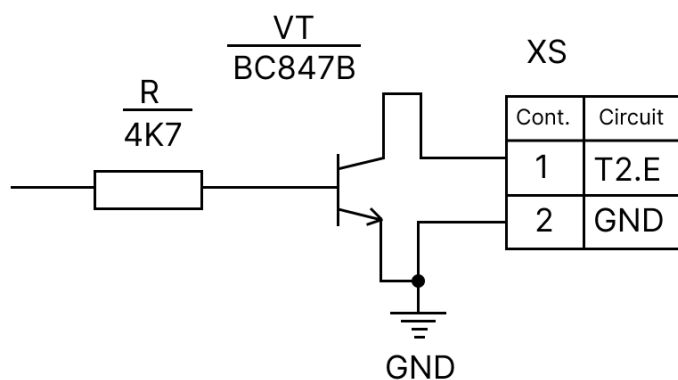

Figure 1.3 – Output stage diagram
1.4.7 Information on the status of monitored DDs is issued to the outputs of the “open collector” type. The output stage diagram is shown in Figure 1.3.